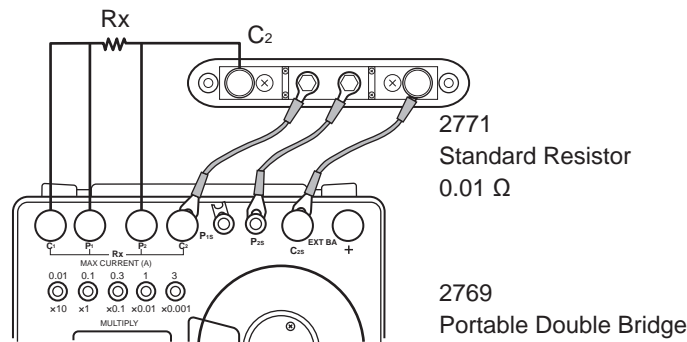

Fig. 4.1 Connection for External Standard Resistor
(6) When it is desired to measure the resistance below 1 m Ω to 0.1 m Ω , connect the 2771 standard resistor to the instrument as shown in Fig. 4.1.